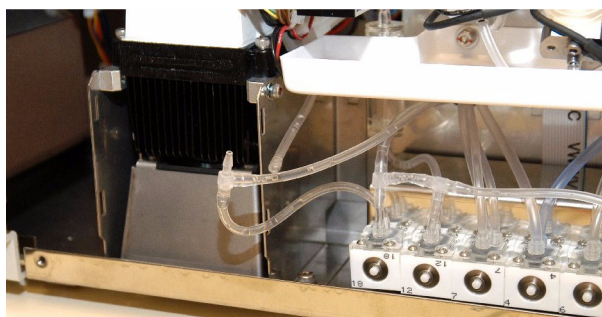

Fig.3: tubing
- ◆ Disconnect the tubing from the «T» connector (T4-1) to the flowcell (See “Fig.3: tubing, page 2”).